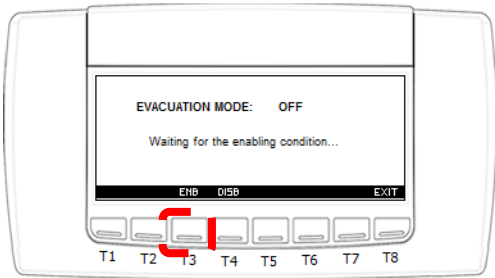

Figure 57: Evacuation mode
- 3) Press **ENB** to enable the evacuation mode (see **Figure 57**):